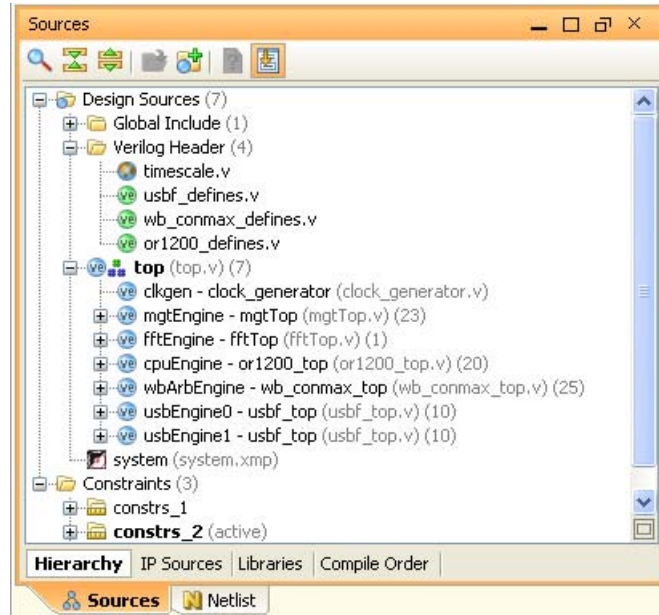

Figure 4-38: Sources View
Generally, the Sources view is open in the PlanAhead tool whenever a project is open. However, to open the Sources view select **Windows > Sources**. Figure 4-38 shows an example of the Sources view.
- The Hierarchy tab displays the hierarchical view of the design sources, starting with the top module. The top module defines the hierarchy of the design for compilation, synthesis and implementation. It is identified with a special icon in the Sources view as shown in Figure 4-38. The PlanAhead tool automatically detects the top module, but you can also manually define the top module using the **Set as Top** command (see Sources View Popup Menu, page 135).
The toolbar menu, as shown in Figure 4-38, page 133, contains the following commands: